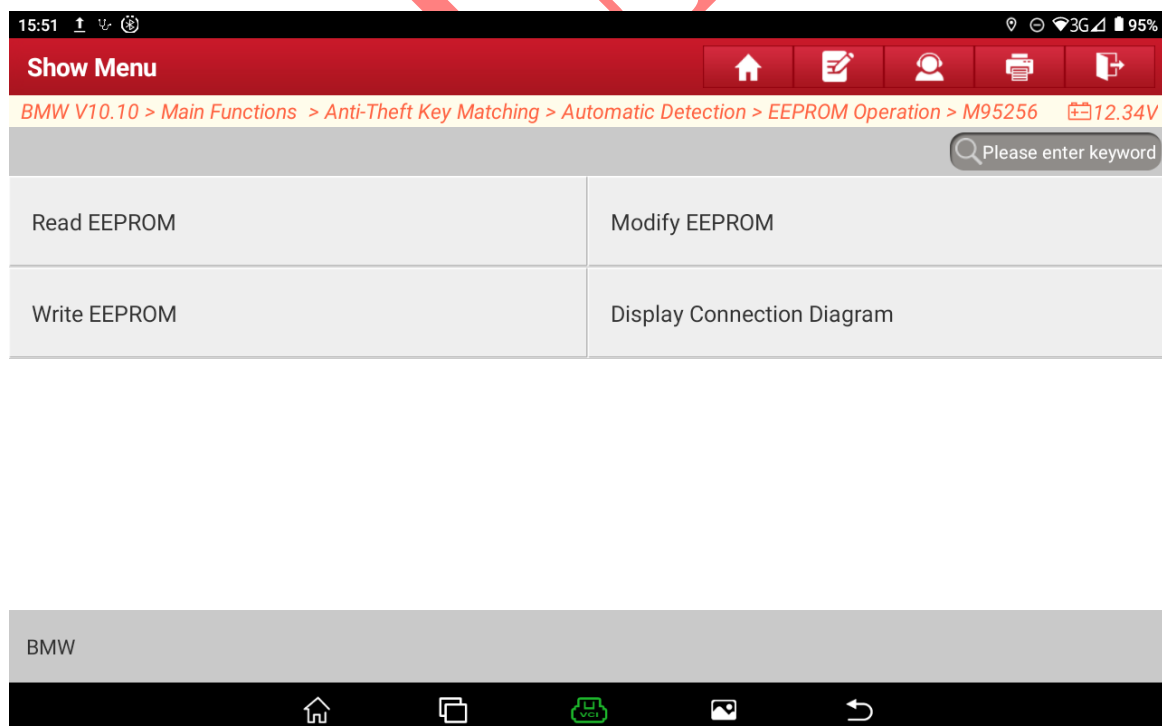

Figure 16
16. Select [Read EEPROM] to read the EEPROM data of the original vehicle, as shown in Figure 16.